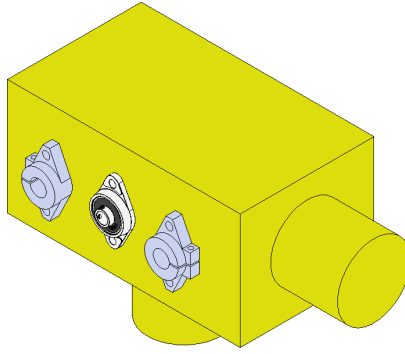

Figure 13: *Y-Axis left auxiliary support* with the two (2) SHF12 supports and KFL08 bearing.
7. Consider the *Y-Axis left auxiliary support* element. Notice the six holes in the front face of the component. These holes are intended for two (2) M5 inserts and four (4) M4 inserts. The M5 inserts are located along the center of the part while the M4 screws are located at their sides. Heat the inserts with a heat gun or a soldering iron and place them into their respective holes. Make sure to place each type of insert in their correct hole. Allow the inserts to cool down before proceeding. Attach two (2) SHF12 linear rod supports and a KFL08 bearing using M4 and M5 screws respectively. Make sure to locate the SHF12 supports with the tightening screws facing outward of the element. Figure 13 shows the assembly.